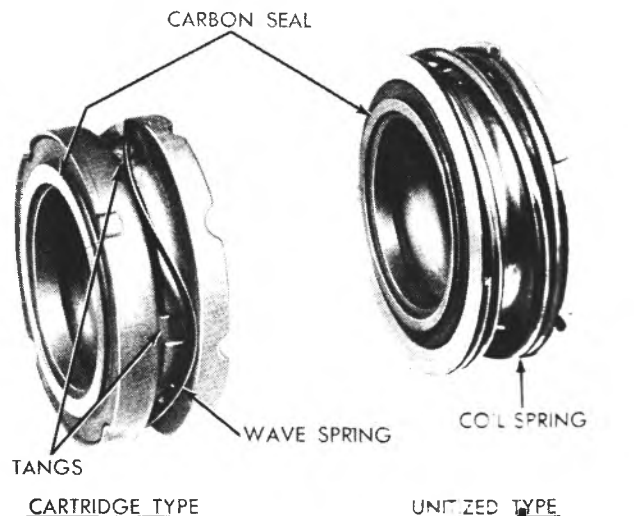

Fig. 41—Gas Seal Identification
The crankshaft gas seal replacement package consists of the crankshaft gas seal assembly and crankshaft bearing housing seal seat plate. Two types of crankshaft seals are supplied for service (Fig. 41). If the replacement package contains the cartridge-type seal, follow the entire installation procedure given below. If the replacement package contains the unitized type seals, follow the appropriate sections only.
(1) Immerse the new seal seat in clean refrigerant oil and install in the bearing housing with the smooth (micro finish) side up. Use a sleeve with the minimum inside diameter of 1-3/8" to avoid damaging the micro finish sealing surface of the face plate. Tap the sleeve lightly until the seal seat is fully seated in the housing.
(2) Before installing the cartridge-type assembly, inspect the assembly to make sure that the tangs of the carbon seal are indexed in the slots of the mating, steel part (Fig. 41).
(3) Immerse the seal assembly in clean refrigerant oil, carbon ring up.
(4) Hold the seal assembly firmly at the outside edge, at the same time preventing the ring from com-